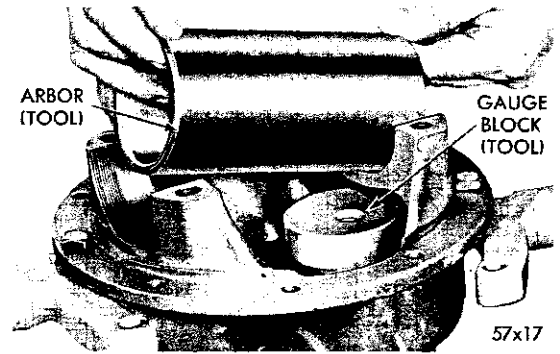

Fig. 21—Installing Arbor
(2) Position arbor SP-561 (part of Tool C-758) in the differential bearing pedestals of the carrier (Fig. 21). Center the arbor so that an approximate equal distance is maintained at both ends. Position the dif-